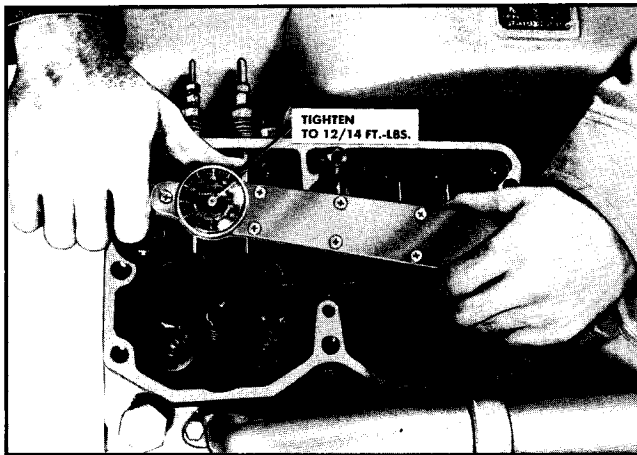

Fig. 4-20. Tightening hold-down capscrews
6. Oil the injector hold-down capscrews and tighten to 10 to 12 foot-pounds with a torque wrench. Fig. 4-20. Excessive tightening will distort the valve seats and will crack the cylinder head.